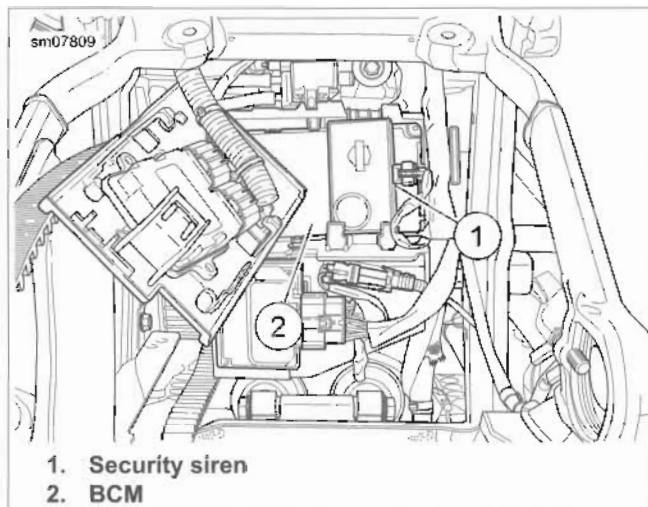

Figure 7-10. BCM
5. See Figure 7-10. Move security siren (1) out of the way.
6. Remove BCM (2).
1. See Figure 7-10. Install BCM (2).